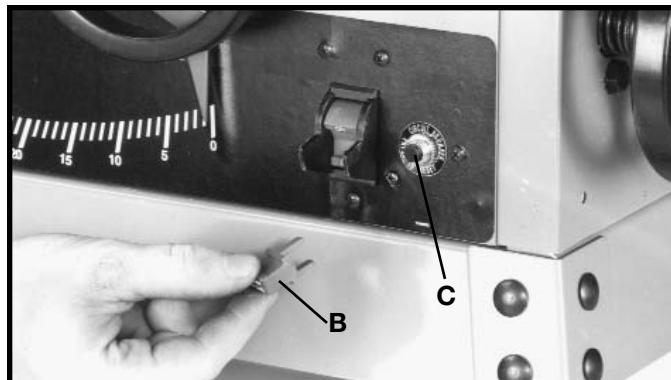

Fig. 34
**IMPORTANT:** When the tool is not in use, the switch should be locked in the "OFF" position to prevent unauthorized use. Grasp the switch toggle (B) and pull it out as shown in Fig. 34. With the switch toggle (B) removed the switch will not operate. However, should the switch toggle be removed while the saw is running, it can be turned "OFF" once, but cannot be restarted without inserting the switch toggle (B).
Your saw is equipped with a restable overload. If the motor shuts off or fails to start due to over-loading (cutting stock too fast, using a dull blade, using the saw beyond its capacity, etc.) or low voltage, turn the switch to the "OFF" position, let the motor cool three to five minutes and push the reset button (C) Fig. 34, which will reset the overload device. The motor can then be turned on again in the usual manner.